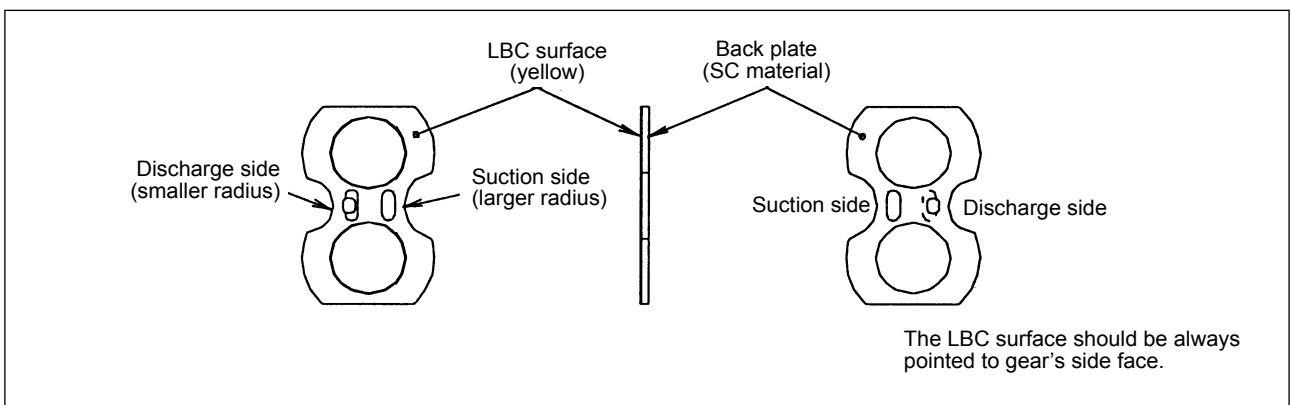

Fig. 3.407
- ⑮ Install the adapter side plate (1) on the adapter (2), referring to Fig. 3.407.
- ⑱ Install the rear side plate (1) in the pump body half 2 (2), as shown in Fig. 3.407.